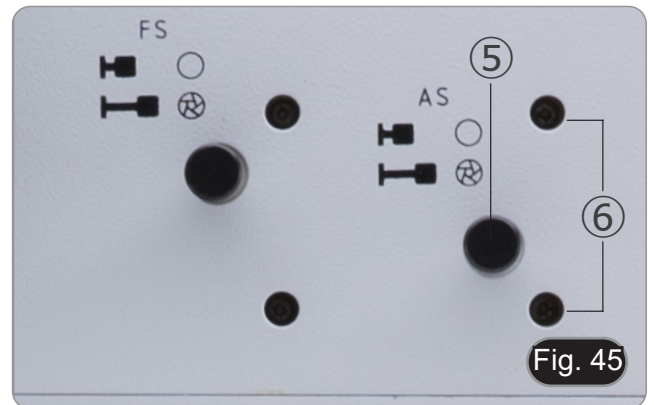

Fig. 45
2. Completely pull out the aperture diaphragm selector ⑤ to fully close the diaphragm. (Fig. 45)
4. While looking into the empty eyepiece sleeve, use the provided Allen wrench into the centering screws ⑥ to bring the bright spot in the centre of the field of view. (Fig. 45)